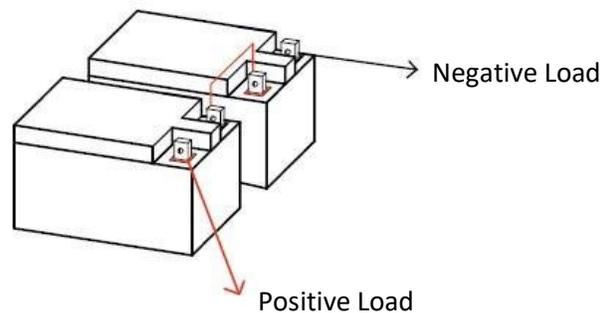

Figure 4: Two 5024 Batteries Connected in Series to create a 48V 50Ah Battery Bank
When batteries are connected in series, current capacities remain the same, but the system voltage is additive. For example, two DF5024 batteries connected in series form a 48V 50Ah bank (shown in Fig. 4) and should be charged using a bulk and absorption voltage of 57.6V, and a float voltage of 54.4V.
7. Repeat steps 3-6 for additional batteries, but **DO NOT** exceed 48V. An example of a correct series connection can be found below in Fig. 4.